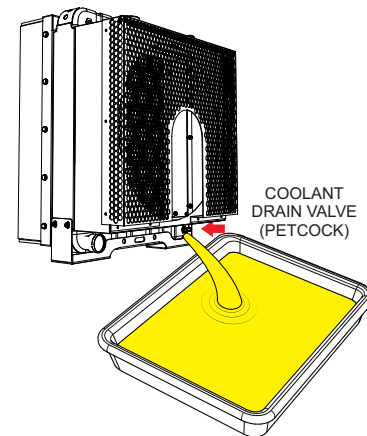

Figure 44. Draining Radiator Coolant
2. Open the coolant drain valve (petcock), then allow the coolant to drain into a suitable container (Figure 44).